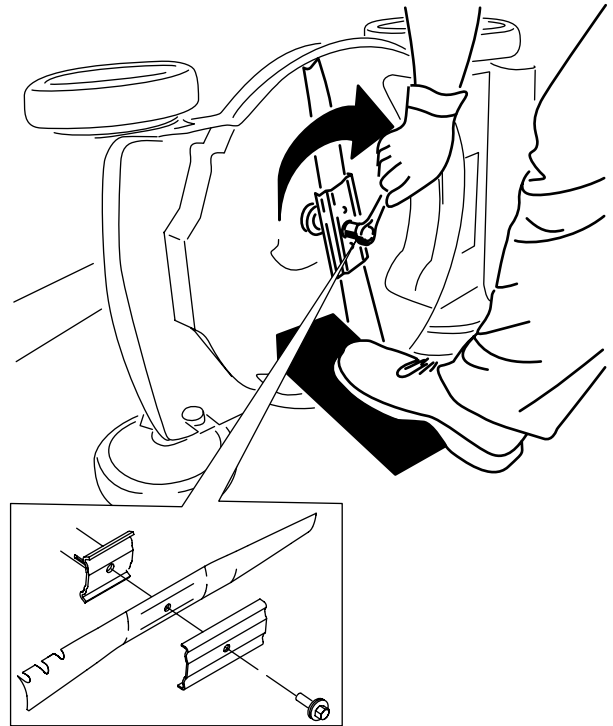

Figure 21
5. Install the new blade and all mounting hardware (Figure 21).